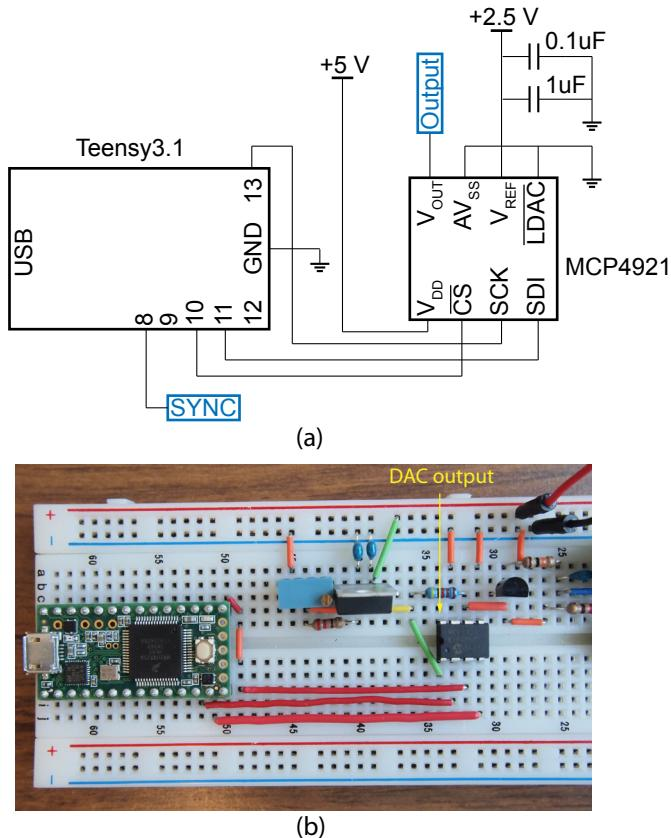

Figure 12: Schematic of the connection between the Teensy 3.1 and the MCP4921.
1. Using Fig. 12-a as a reference, connect the Teensy to the MCP4921 DAC. Connect the MCP4921's VDD pin to the output of the LM317 regulator (5 V). Connect the MCP4921's VREF pin to the LT1009 reference's output (2.5 V). Connect both AVSS and LDAC of the MCP4921 to ground. A 0.1 μ F and a 1 μ F capacitor could be used at VREF to minimize noise at the reference. It is very important to keep your circuit (ICs, resistors, capacitors, wires, etc) organized. Use as short of a wire as possible between two connection points. Refer to Fig. 12-b for an example layout.